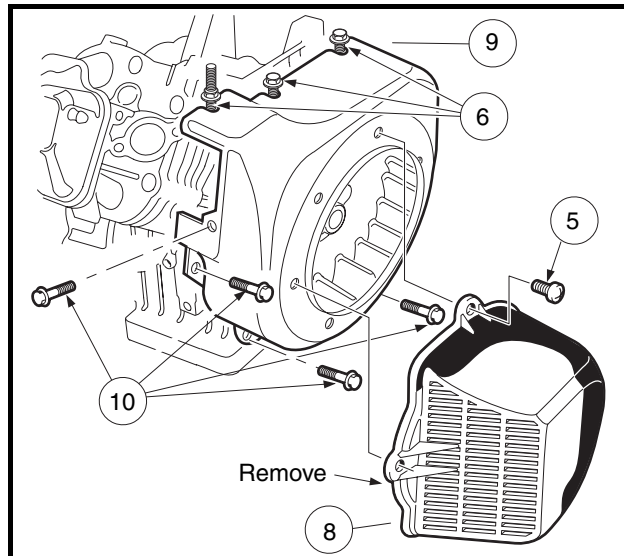
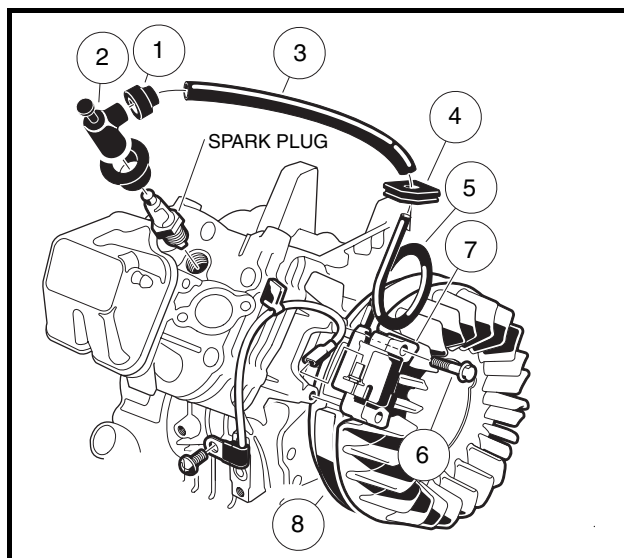
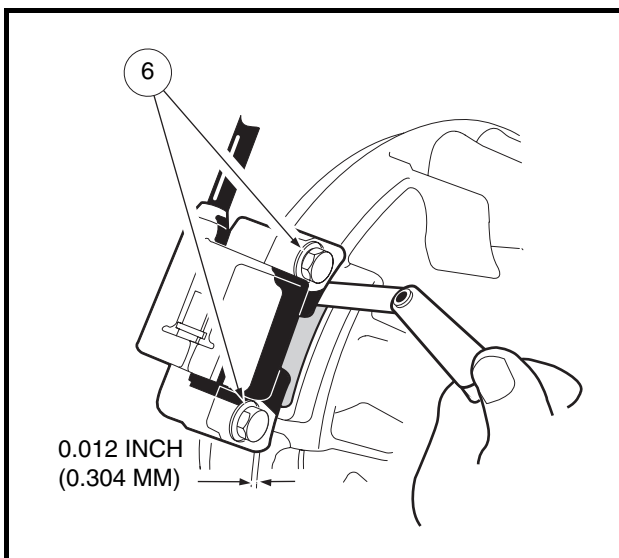

Figure 13-24 Remove Fan Housing
Figure 13-26 Clean Grommet
Figure 13-27 Mount Ignition Coil Using Feeler Gauge
4. Remove the two nuts (6) and washers (3) from the stud bolts on the engine body.
7. Remove the pan head bolts (5) securing the fan shroud (8) to the fan housing (9) (Figure 13-24, Page 13-25).
8. Loosen, but do not remove, three bolts (6) attaching the fan housing as shown.
9. Remove the remaining four bolts (10) attaching the fan housing (Figure 13-24, Page 13-25), then while opening the housing, detach the spark plug wire grommet (4) from the housing (Figure 13-26, Page 13-26).
1. Remove the rubber gasket (1) on the plug cap (2) by rolling back the gasket onto the spark plug wire.
2. Remove the cap (2) from the wire by turning the cap counterclockwise three or four revolutions while gently pulling it off the wire (Figure 13-26, Page 13-26).
3. Remove the gasket (1) and protector tube (3) from the old coil. See following NOTE.
4. Remove the grommet (4) from the old spark plug wire. Clean the grommet and place it on the new spark plug wire (5).
5. Install the protector tube (3) onto the new wire (Figure 13-26, Page 13-26).
6. Slide the gasket (1) onto the end of the new spark plug wire.
7. Install the cap (2) on the new coil spark plug wire by rotating it clockwise three or four revolutions while applying light pressure on the cap.
8. Install the gasket (1) on the cap (2).
9. Position the ignition coil (7) onto the cast mounting bosses on the engine crankcase and tighten the two mounting bolts (6) finger-tight.
10. Rotate the flywheel (8) until the magnet is positioned directly under the ignition coil. Use a 0.012 inch (0.304 mm) bronze feeler gauge to set the air gap between the ignition coil and the flywheel magnet. Tighten the two mounting bolts (6) to 30 in-lb (3.4 N·m) (Figure 13-27, Page 13-26).
13. When installing fan housing, make sure the top front corner of the housing is above the upper cylinder shroud. The front edge of the fan housing should be behind the lower cylinder shroud. Align the slots in the housing with the flanged bolts (6) loosened earlier (**Figure 13-24, Page 13-25**).
14. Install the four remaining flanged bolts (10) that secure the fan housing to the engine crankcase. Tighten all seven mounting bolts (6) and (10) to 90 in-lb (10.2 N·m).
15. Install the fan shroud with four pan-head bolts (5) and tighten to 50 in-lb (5.7 N·m).